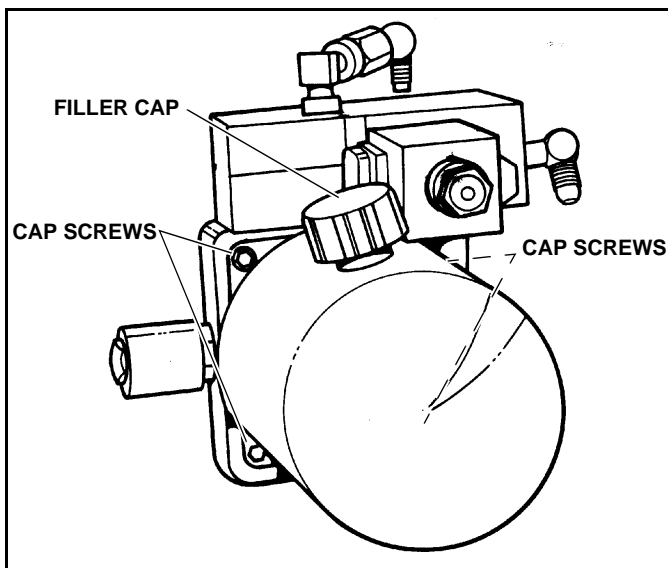

Figure 2-4
7. Remove the filler/breather cap from the reservoir. (See Figure 2-4)
9. Remove the four cap screws securing the oil reservoir to the pump assembly and remove the oil reservoir. (See Figure 2-4)
14. Inspect the O-ring seal for damage, replace if needed, lubricate with fresh oil and reinstall reservoir carefully to avoid damaging the O-ring. Tighten cap screws to 4-6 lbs-ft. (See Figure 2-4)